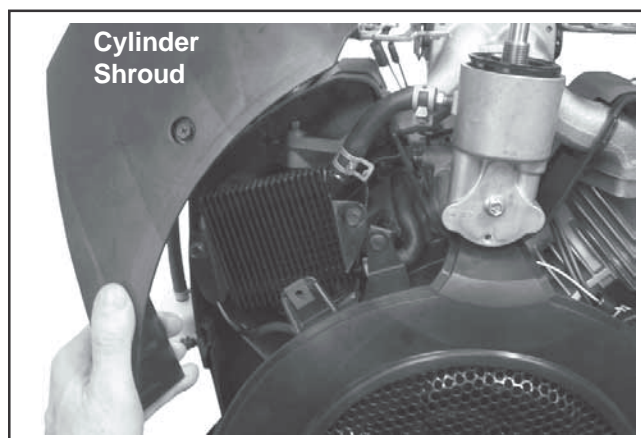

Figure 8-5. Removing Cylinder Shrouds.
1. Remove the top mounting screw and loosen the two shoulder screws on each side. Lift off the two cylinder shrouds. See Figure 8-5.